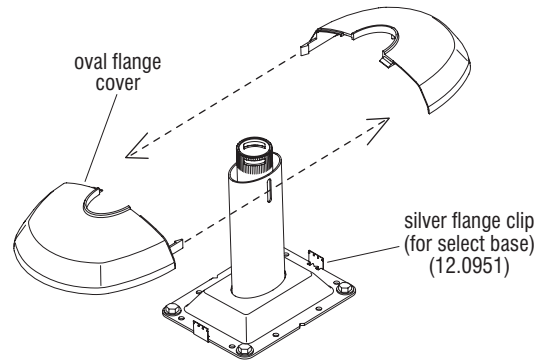

Figure 3 - Select Base
6. Jury Base Select oval flange covers fit around the upright as illustrated. Snap the flange covers together and push down to the floor to engage the pre-installed flange clips (Figure 3).